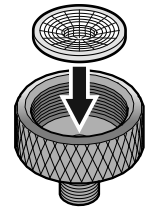

Figure 14
- Insert the water strainer supplied into the valve connector (**Figure 14**).